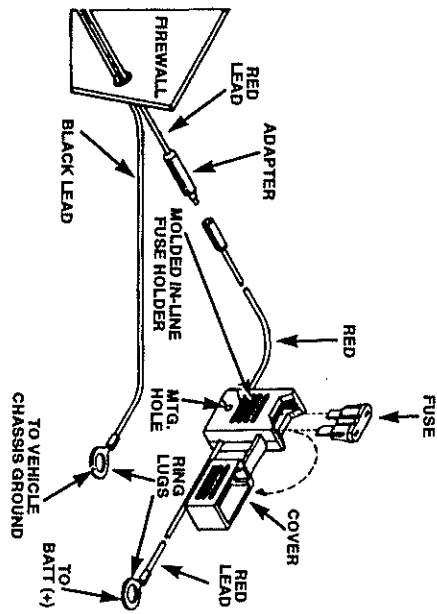

Figure 2. Power Cable Assembly
5. Install ring lugs (supplied) onto stripped end of power cable black lead, and onto stripped end of red lead on fuse holder as shown in Figure 2.
lead of the power cable as shown in Figure 2.
9. Plug fuse into in-line fuse holder as shown in Figure 2.